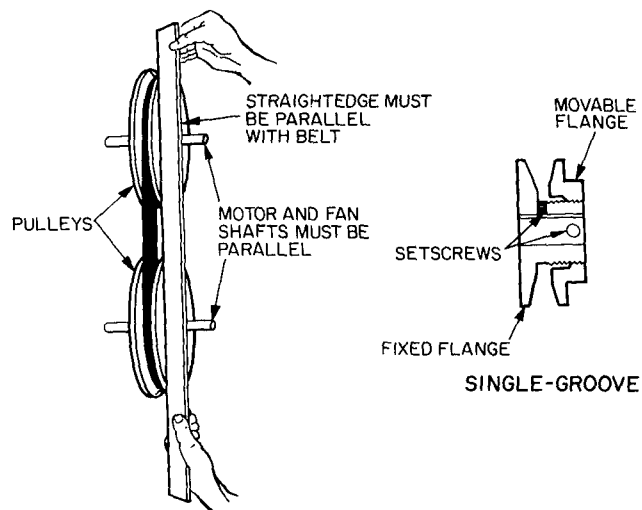

Fig. 12 - Indoor Air Fan Pulley Adjustment
3. Loosen movable pulley flange setscrew (see Fig. 12).